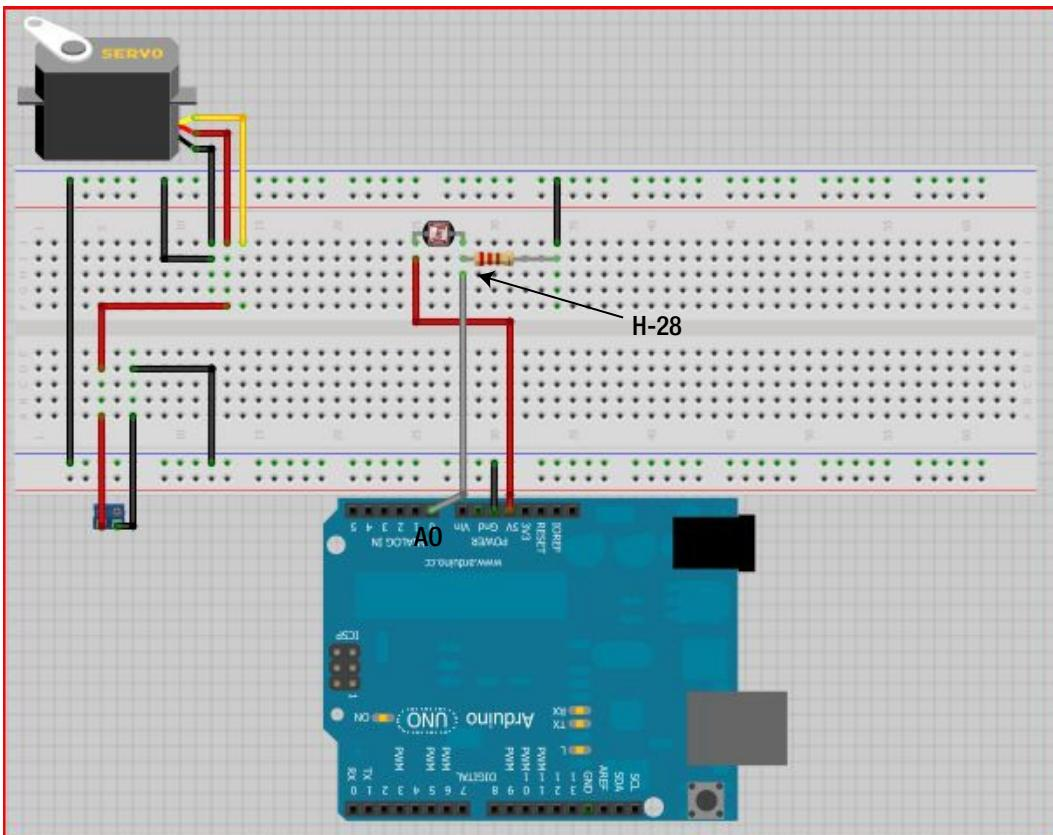

Figure 27-13. Connect analog pin 0 of the Arduino to the phototransistor
12. Run a jumper wire (we used green) from analog pin 0 (A0) on the Arduino to H-28 on the breadboard. Figure 27-13 illustrates this process.